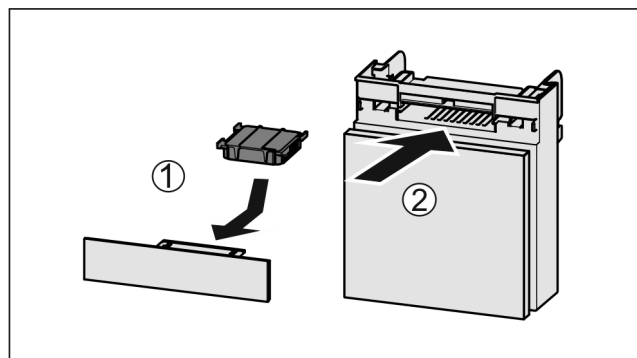

Fig. 162
- ▶ Insert the carbon filter as shown in the diagram *Fig. 162 (1)*.
- ▶ Push the compartment in *Fig. 162 (2)*.